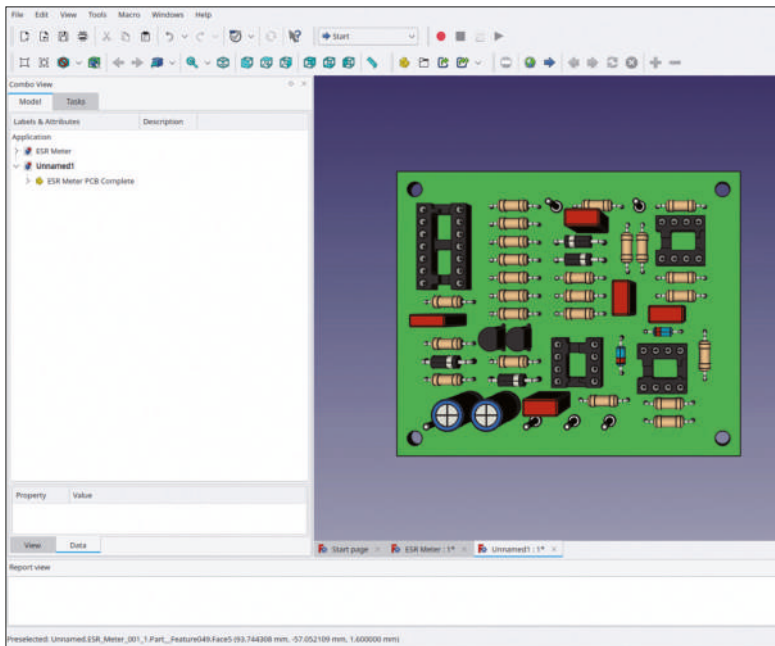

Figure 7-59
1. In the directory 'Sample Projects | ESR Meter | Components', locate and open the file 'ESR\_Meter\_001.step'. FreeCAD creates a new document and inserts the STEP file contents in an Std-Part-Container. Rename the container to 'ESR Meter PCB Complete' (Figure 7-59).